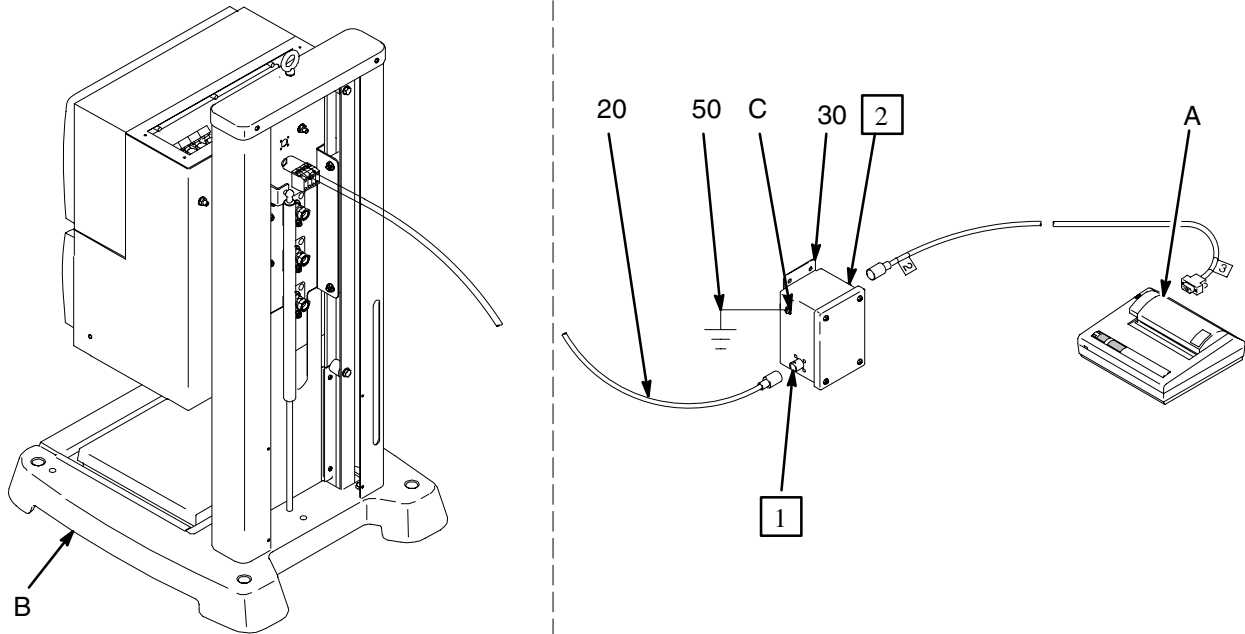

Fig. 4
3. Mount the printer barrier (30) in the non-hazardous area (Fig. 4).
4. Connect the ground wire assembly (50) to the printer barrier ground lug (C) (Fig. 4).
5. Measure the resistance between the printer barrier ground lug (C) and true earth ground. The resistance should be less than 1 ohm.
7. Connect the 45 ft. (13.72 m) cable (20) between the printer barrier (30) connector labeled "1" and the printer cable connector  (F) on the ProBatch control (B) (Fig. 4).